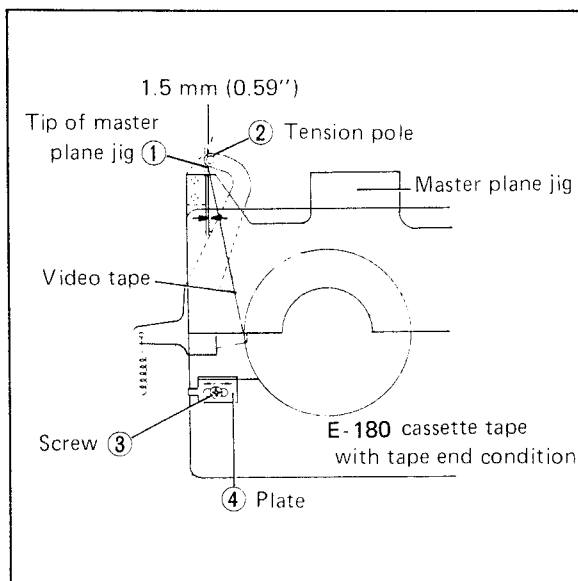

Fig. 5-13 Back tension adjustment
3. After tape starts traveling, check the tension pole position as shown in Fig. 5-13. Clearance between tension pole and tip of master plane jig is 1.5 mm (0.06 inches).
4. If not, adjust the position of plate ④ by using screw ③ as shown in Fig. 5-13.